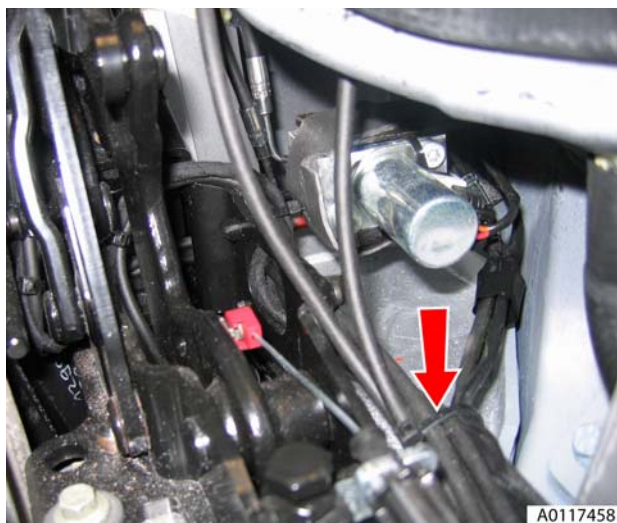

Figure 11
20. Remove cable ties and remove pipe from vehicle (see Figure 11).